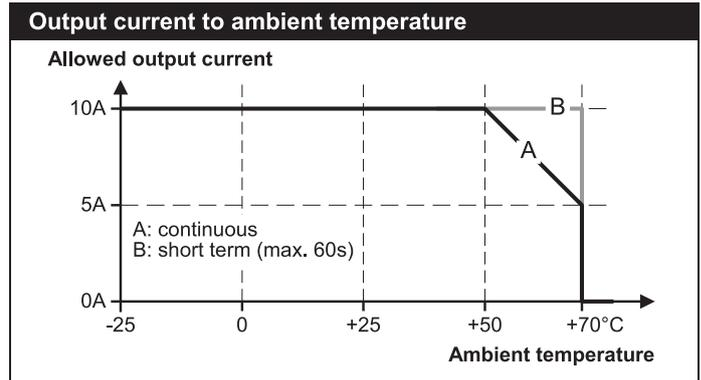

Figure 6
- The device is equipped with an over-temperature protection. In case of a high temperature, the output shuts down and starts automatically again after cooling off (see Fig. 6).